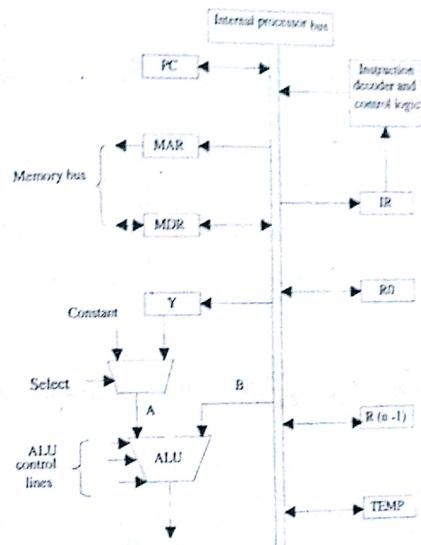

Fig: 19
- (d) The CPU has an ALU (to perform all arithmetic and logic operations), a number of special function registers (like PC, IR, ACC, MAR, MDR, SP, etc.), a number of general-purpose register (like R0, R1, R2, etc.) and the control unit. Consider the figure 19, given below.
Consider the single-bus organization figure 19. The sequence of operations (control signals) to add the contents of register R1 and R2 and store the result in register R3 (i.e. the control signals for the microoperation  $R3 \leftarrow R1 + R2$ ) are as follows: